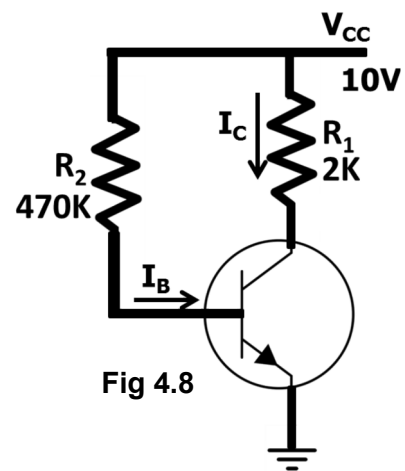

Fig 4.8
**Problem 4.3: What is the Q point for this Germanium transistor in fig 4.8 ? Draw the DC load line. ( $\beta =100$ .)**